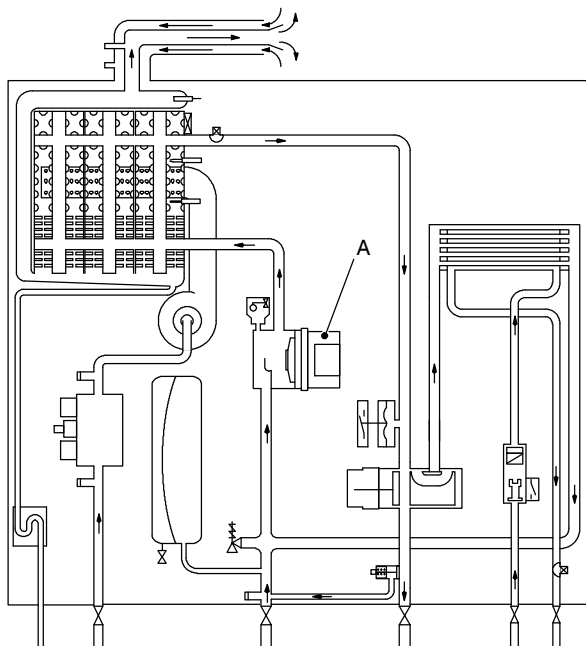
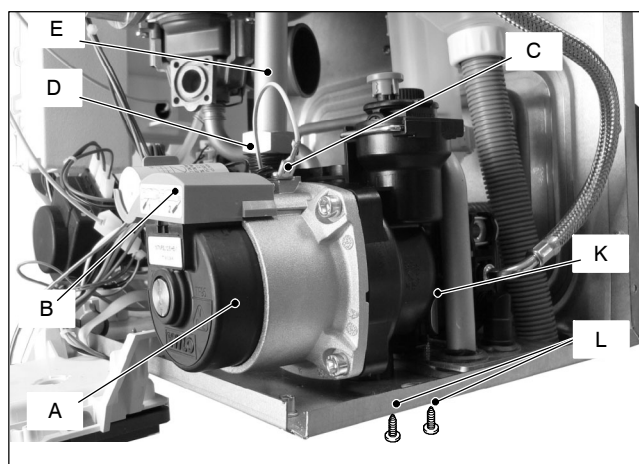
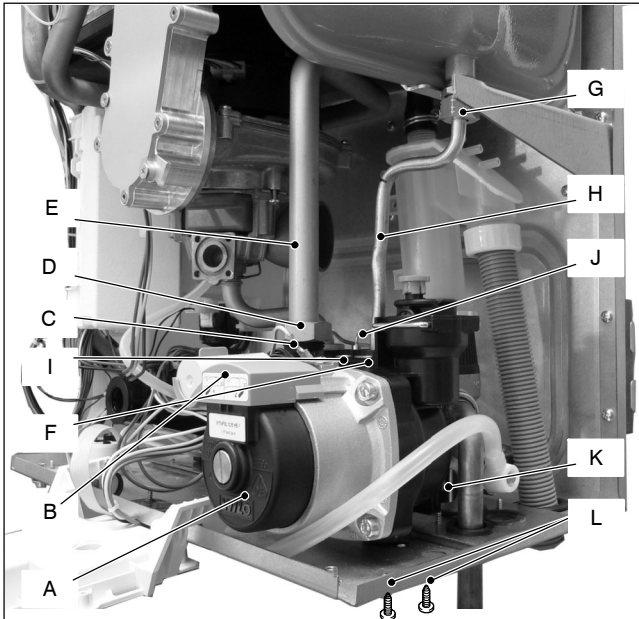

Fig. 7.1
Fig. 7.3
Fig. 7.4
The pump A in Fig. 7.1 and Fig. 7.3 has the function of making the water in the main circuit circulate through the main condensing heat exchanger and therefore through the c.h. system (during the c.h. function) or through the secondary heat exchanger (during the d.h.w. function).
With the boiler off, remove the front panel and disconnect the connector B (Fig. 7.3 – Fig. 7.4).
- 3 Disconnect the connector B (Fig. 7.3 – Fig. 7.4) following the indications given on the connector box.
- 6 C.H. only model remove the fork *F*, loosen the connection *G* and remove the pipe *H* (Fig. 7.4).
- 7 C.H. only model remove the fork *I* and remove the pressure gauge pipe *J* (Fig. 7.4).
- 8 Remove the locking plate *K* (Fig. 7.3 – Fig. 7.4).
- 2 Disconnect the connector *B* (Fig. 7.3) following the indications given on the connector box.